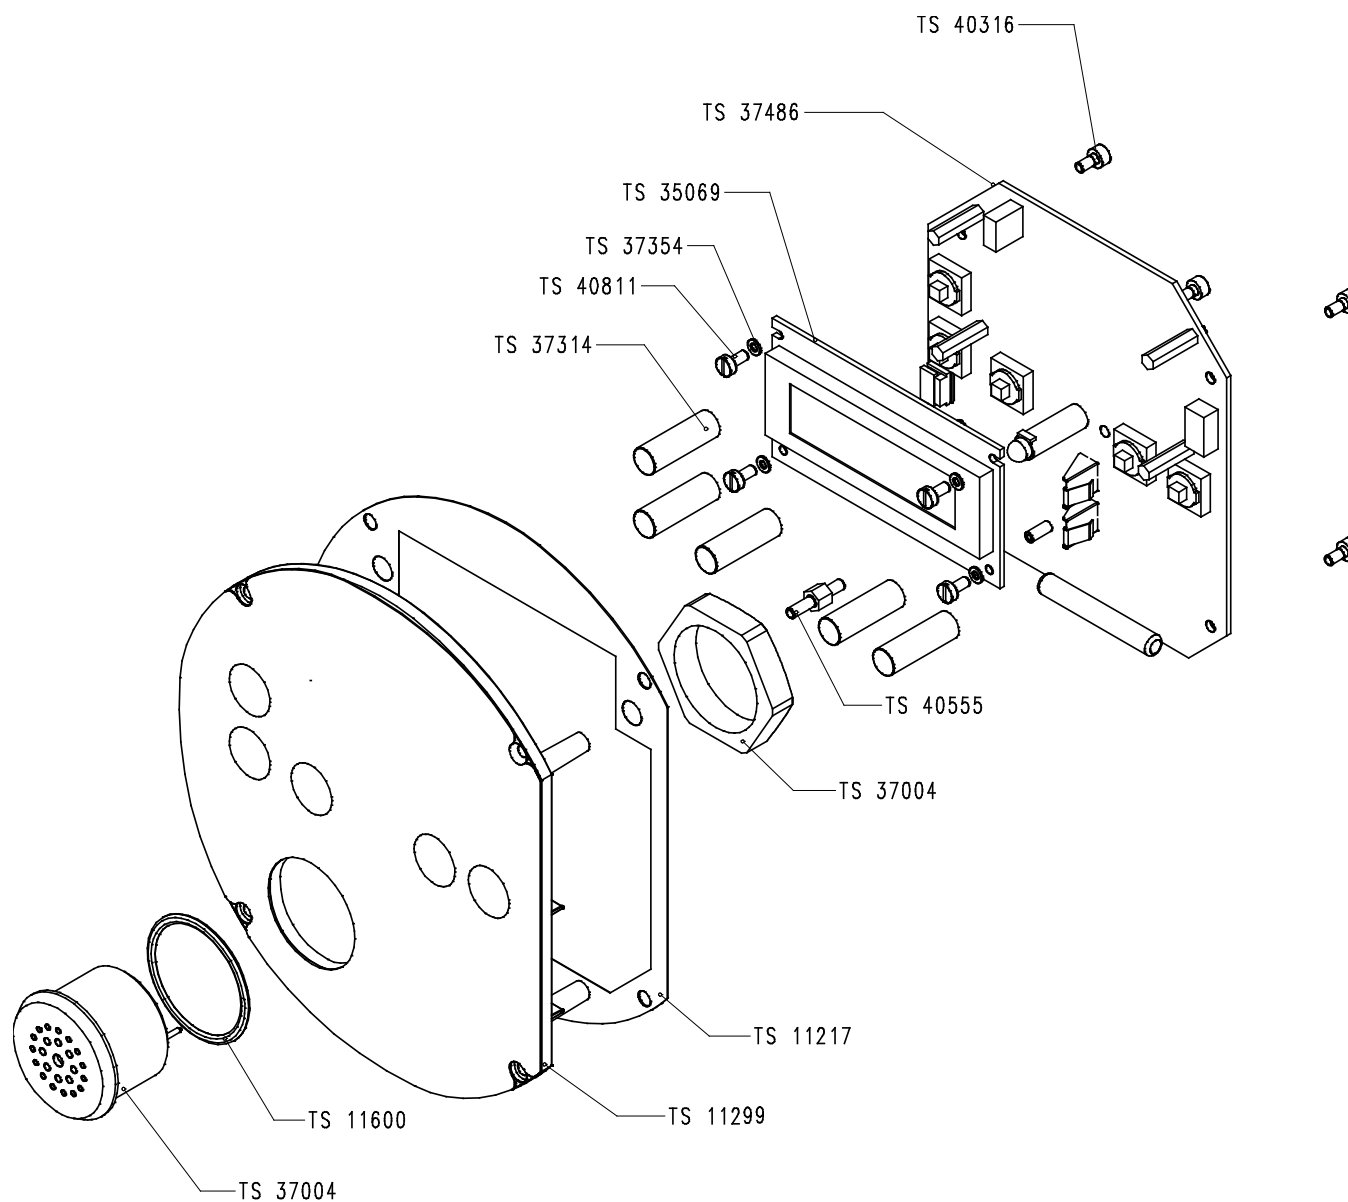

Figure 13-2: display unit assembly TS 10227, details
- Figure 13-2: display unit assembly TS 10227, details